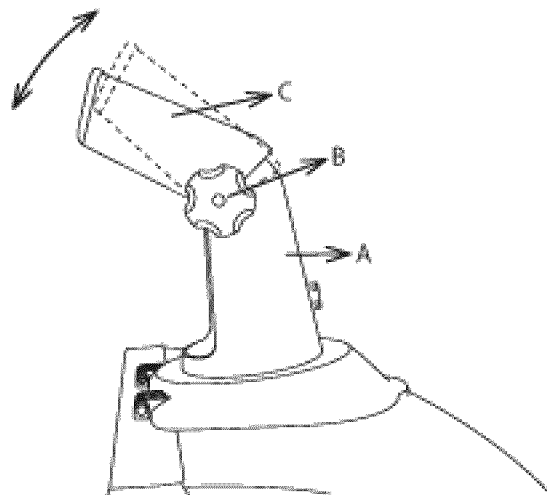

Figure 24
- The chute deflector on the top of the discharge chute controls the height of the snow stream. Loosen both chute deflector knobs to raise or lower the deflector to the desired height of snow you wish to throw. Tighten the knobs to secure the deflector (Fig. 24).